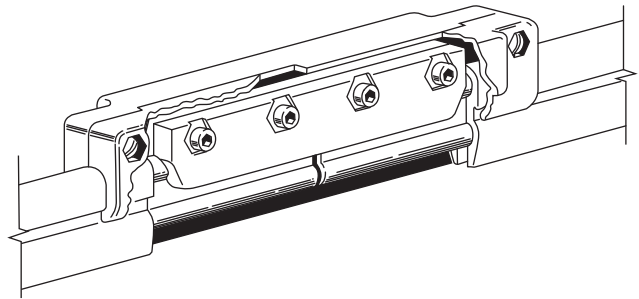

Figure: 9-6
B. For joining bolted conductor bars, see **Figure 9-6**.